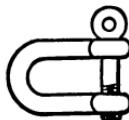

FIG. 140.—SHACKLE BOLT.
**Shackle Bolts.**—Shackle bolts are  $\frac{3}{8}$  inch iron rods bent in the shape of the letter U and having eyes formed on the end of the rods so that bolts can be passed through them as shown in Fig. 140. These bolts are used to link the eyes of the insulators at the ends of the aërials with the thimbles holding the manilla rope.